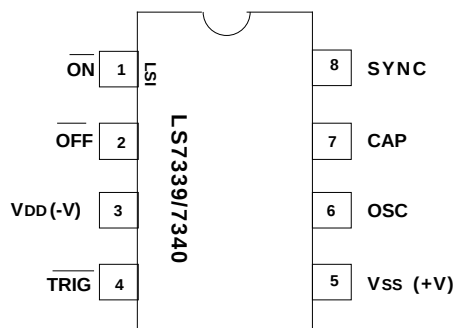

FIGURE 1
- LS7339, LS7340 (DIP) - See Figure 1